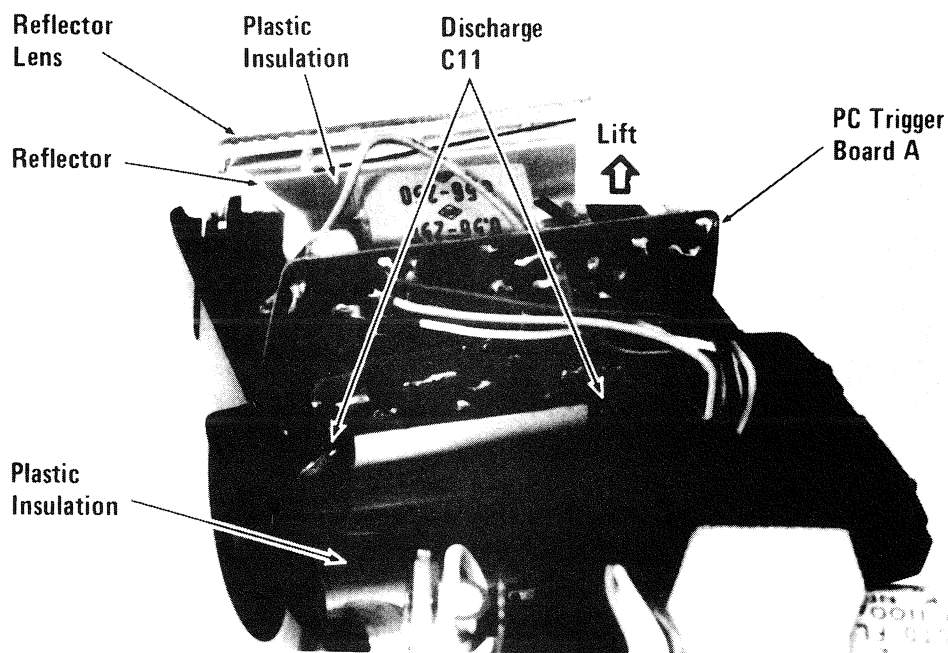

Figure 3-7. Discharging Capacitor C11
- H. Grasp the outside of reflector Case UA — being careful not to touch the PC trigger board A and associated components and leads — and position as shown. Fig. 3.7. Lift the back edge of reflector case UA, and discharge capacitor C11 through a 100 ohm, 10W resistor at terminal points shown.
- I. Slide PC trigger board A and flashtube reflector assembly and lens out of reflector case UA. Remove piece of plastic insulation between PC board and reflector assembly. Fig. 3.7.
- J. Replace plastic insulation between the reflector assembly and PC trigger board A. Figure 3-7.